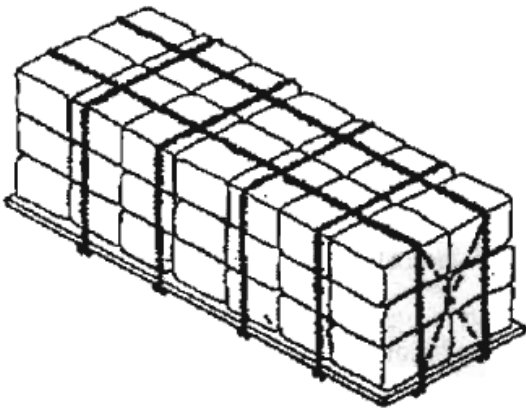

Figure 1
1. Loads more than one tier high, with horizontal bales laid crosswise in the top tier, shall not have less than four cross binders uniformly spaced across the top of the load, see figure 1.